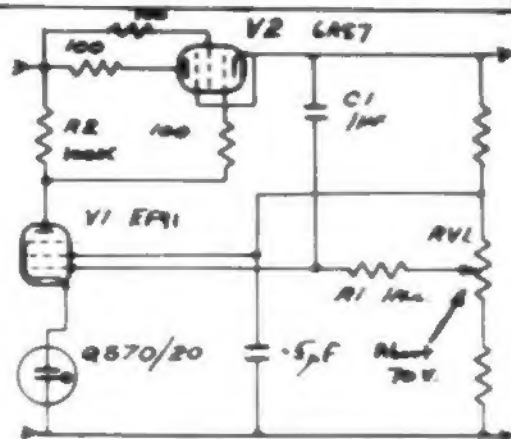

Figure 4: A typical general purpose stabiliser circuit.
Figure 4 shows a typical "all-round" stabiliser. Using an EP91 amplifier, and a 6AS7 control valve, Eqn (1) shows that the output impedance will be about 0.2 ohms, and the voltage stability will depend upon the stability of the neon. This in turn depends on the current flowing through it, which is limited by  $R_2$ ; one cannot therefore make the gain of the amplifier very large by further increasing  $R_2$  without sacrificing stability.  $R_1$  is a high value (1M) so that  $C_1$  can be reasonably small and yet still be satisfactory at low frequencies. (Compare the use of large grid leaks with small condensers in video amplifiers). AVL acts as a fine control on the output voltage. 100 ohm stopper resistors are included in the control valve circuit to prevent spurious oscillations.